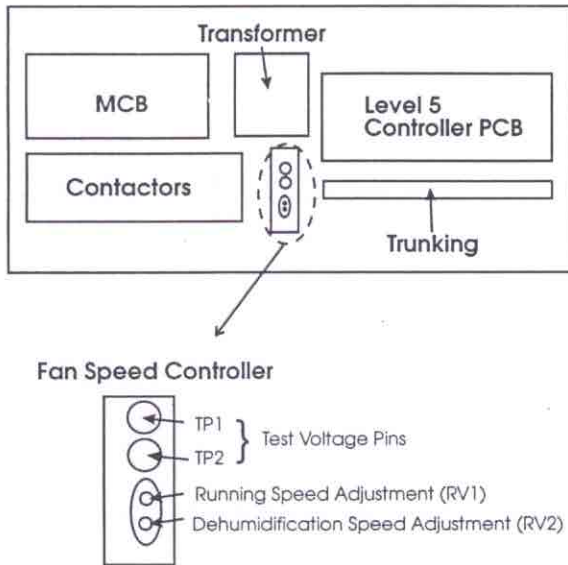
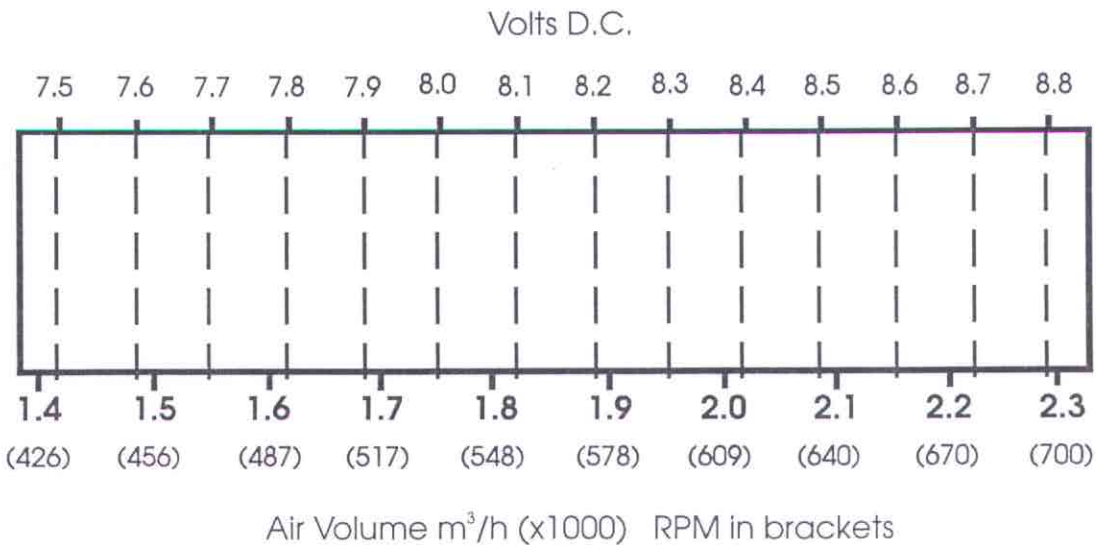

Figure 7 - Location of Fan Speed Controller
Figure 8 - Guide for fan speed adjustment
2. Refer to Figure 7 to locate the fan speed controller.
5. An alternate method of adjusting the fan speed is to measure the D.C. voltage between TP1 and TP2 (see Figure 7) and using the scales in Figure 8, select a D.C. voltage to give the required fan speed/air volume. This D.C. voltage can then be set by rotating RV1.